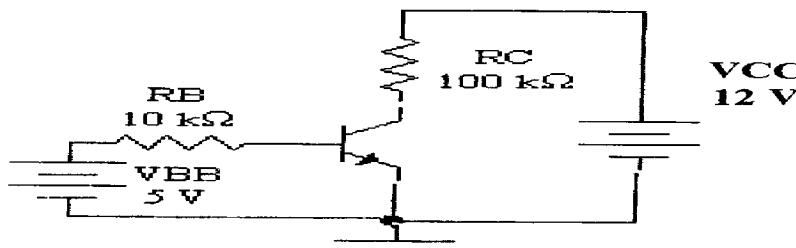

FIGURE 1
- b-- Determine  $I_B$ ,  $I_C$ ,  $I_E$ ,  $\alpha$ ,  $V_{CE}$ , and  $V_{CB}$ , in the circuit shown in figure 1 .The transistor has a  $\beta = 150$  (9 MARKS)